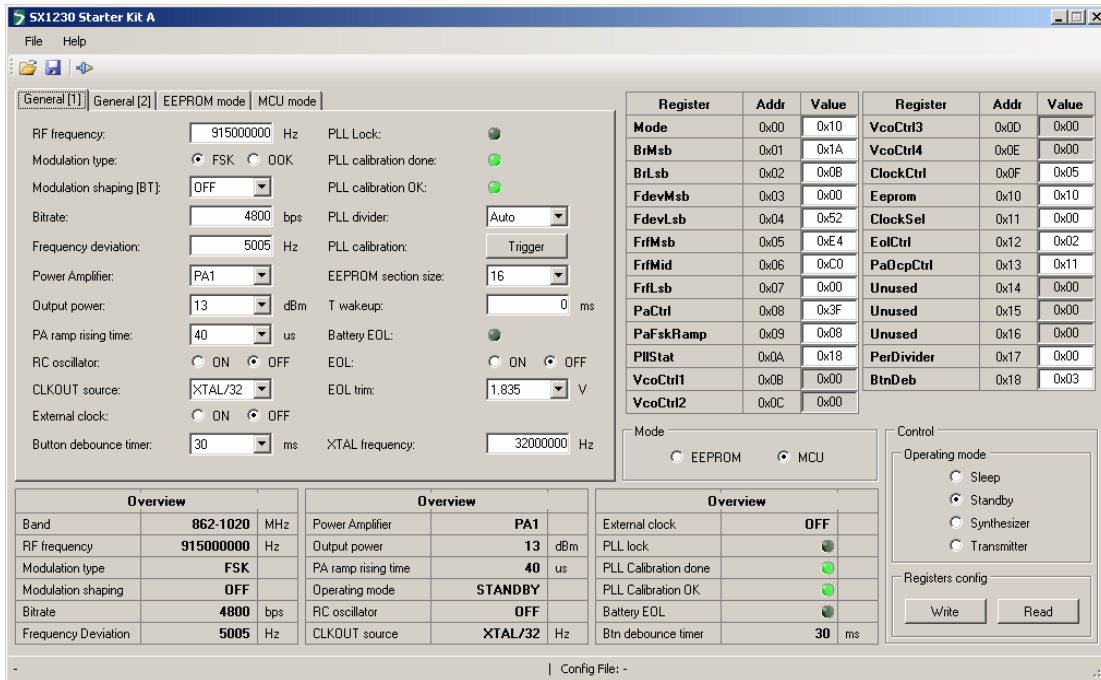

Figure 9. SX1230 User Interface, Default Settings
4. Once connected the SX1230SKA shows the default configuration of the SX1230 register settings upon power-up (see Figure 9).